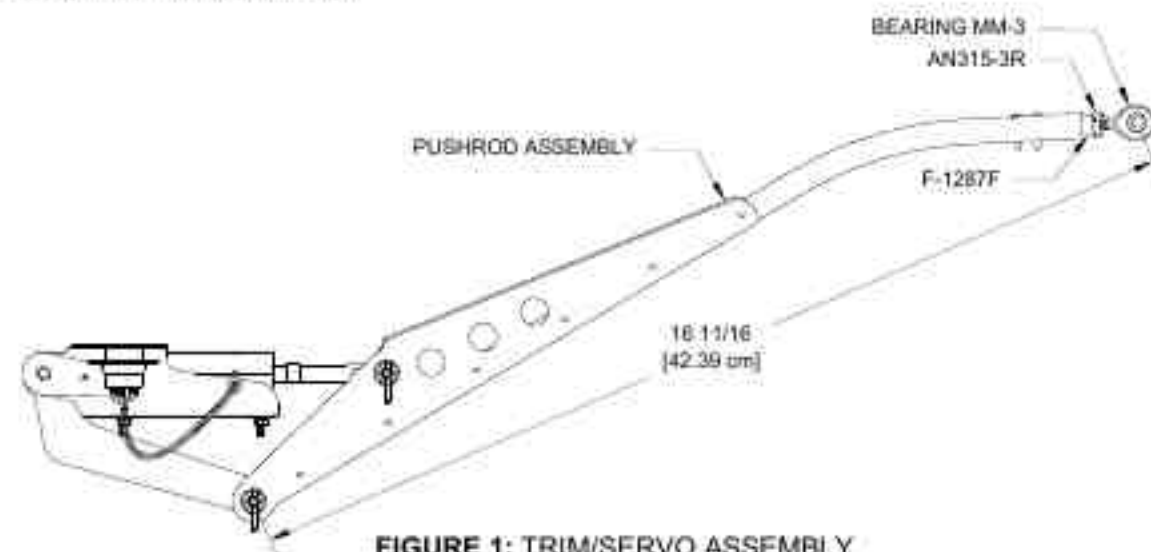

FIGURE 1: TRIM/SERVO ASSEMBLY
Step 1: Install the called out rod end bearing and jam nut into the F-1287F Threaded Insert per dimensions in Figure 1. Achieve the dimension given then rotate the bearing body to align with the centerline of the Pushrod Assembly as shown in Figure 1.